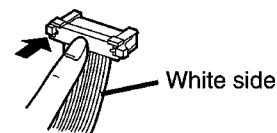

Fig. 8-3.
- Make sure the white side of the cables is on your right side. Refer to Fig. 8-3.